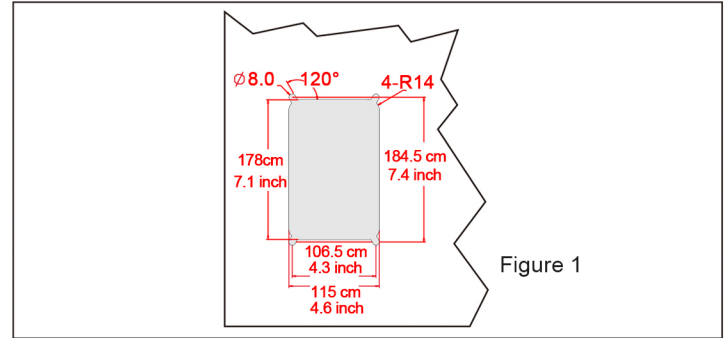

Figure 1
Step1: Open the hole on the relevant position of steam room or shower room according to the Figure 1 size. (Note: size allowance within ±0.5mm/0.02 inch)